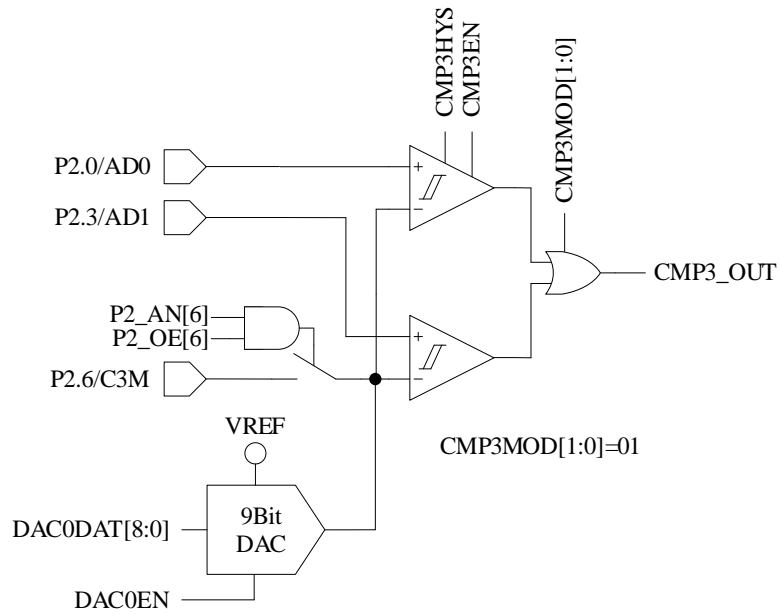

Figure 27-3 Dual-comparator Input Mode
- When CMP_CR1[CMP3MOD] = 01, CMP3 works in Dual-comparator Input Mode. The connection of input and output pins are shown in Figure 27-3.